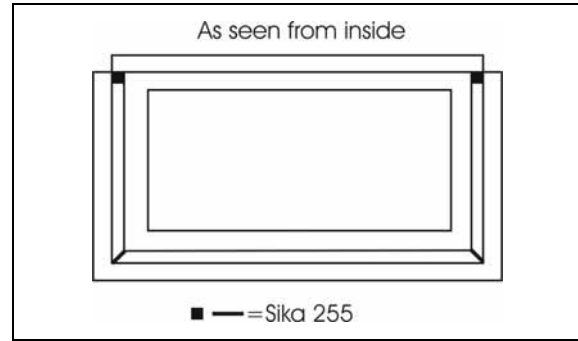

FIGURE 66: SIKa 255 APPLICATION
3. Apply Sika 255 (or 252) at the upper and lower frame corner as per FIGURE 66.